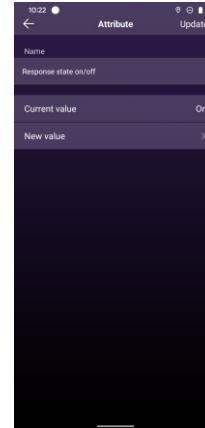
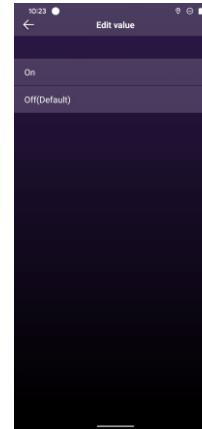

Figure 27
Figure 28
17. The attribute “**Response state on/off**” is to enable or disable sensor state report. Tap it to enter setting interface, available setting range is **On & Off**, On means state report enabled, Off means state report disabled, factory default is Off. Once set a new value, tap “**Update**” button at upper right corner to save the setting (as shown in **Figure 27 & Figure 28**).